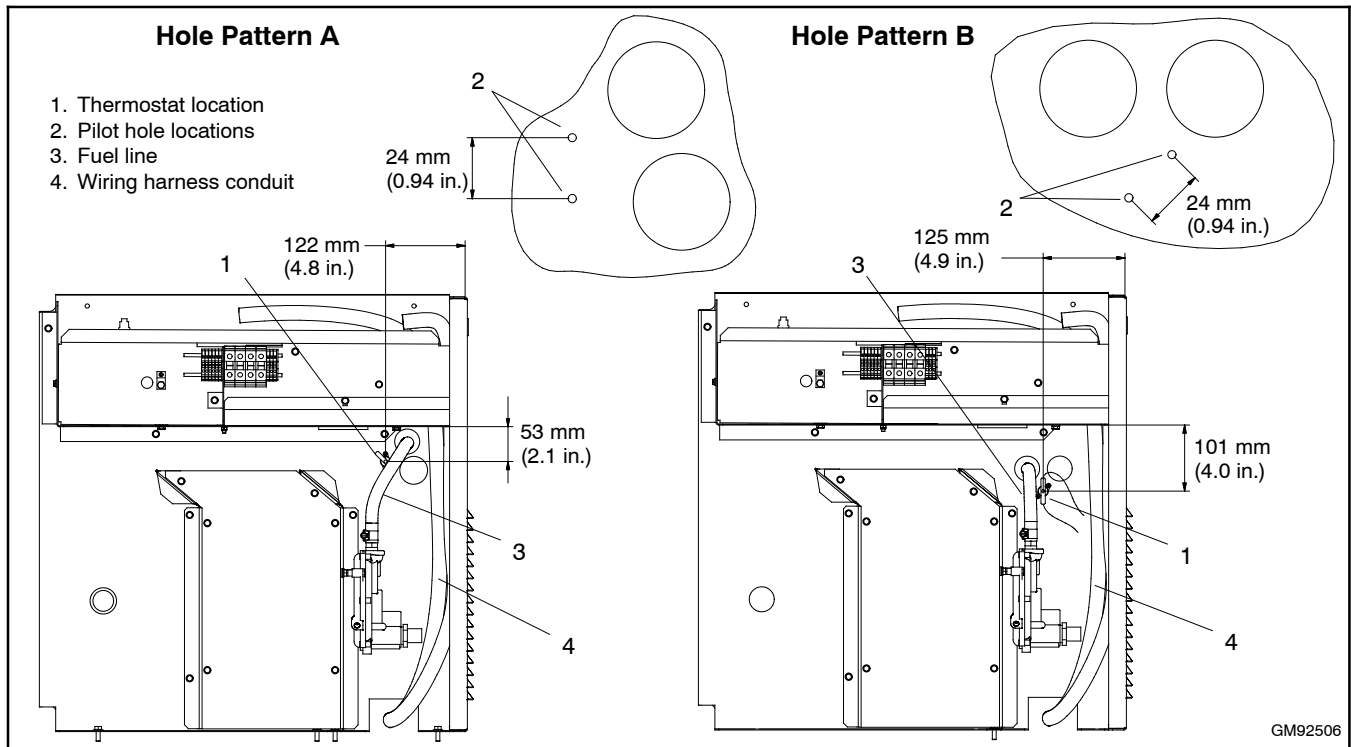

Figure 4 Thermostat Location Diagram
Note: Two possible locations exist for the thermostat. Use the bulkhead hole patterns shown in Figure 4 to determine the appropriate thermostat location.
9. Use the dimensions in Figure 4 to determine the screw hole locations.
10. Starting from the metal (uninsulated) side of the bulkhead, mark and drill two 1/8 in. pilot holes at the locations specified in Figure 4.